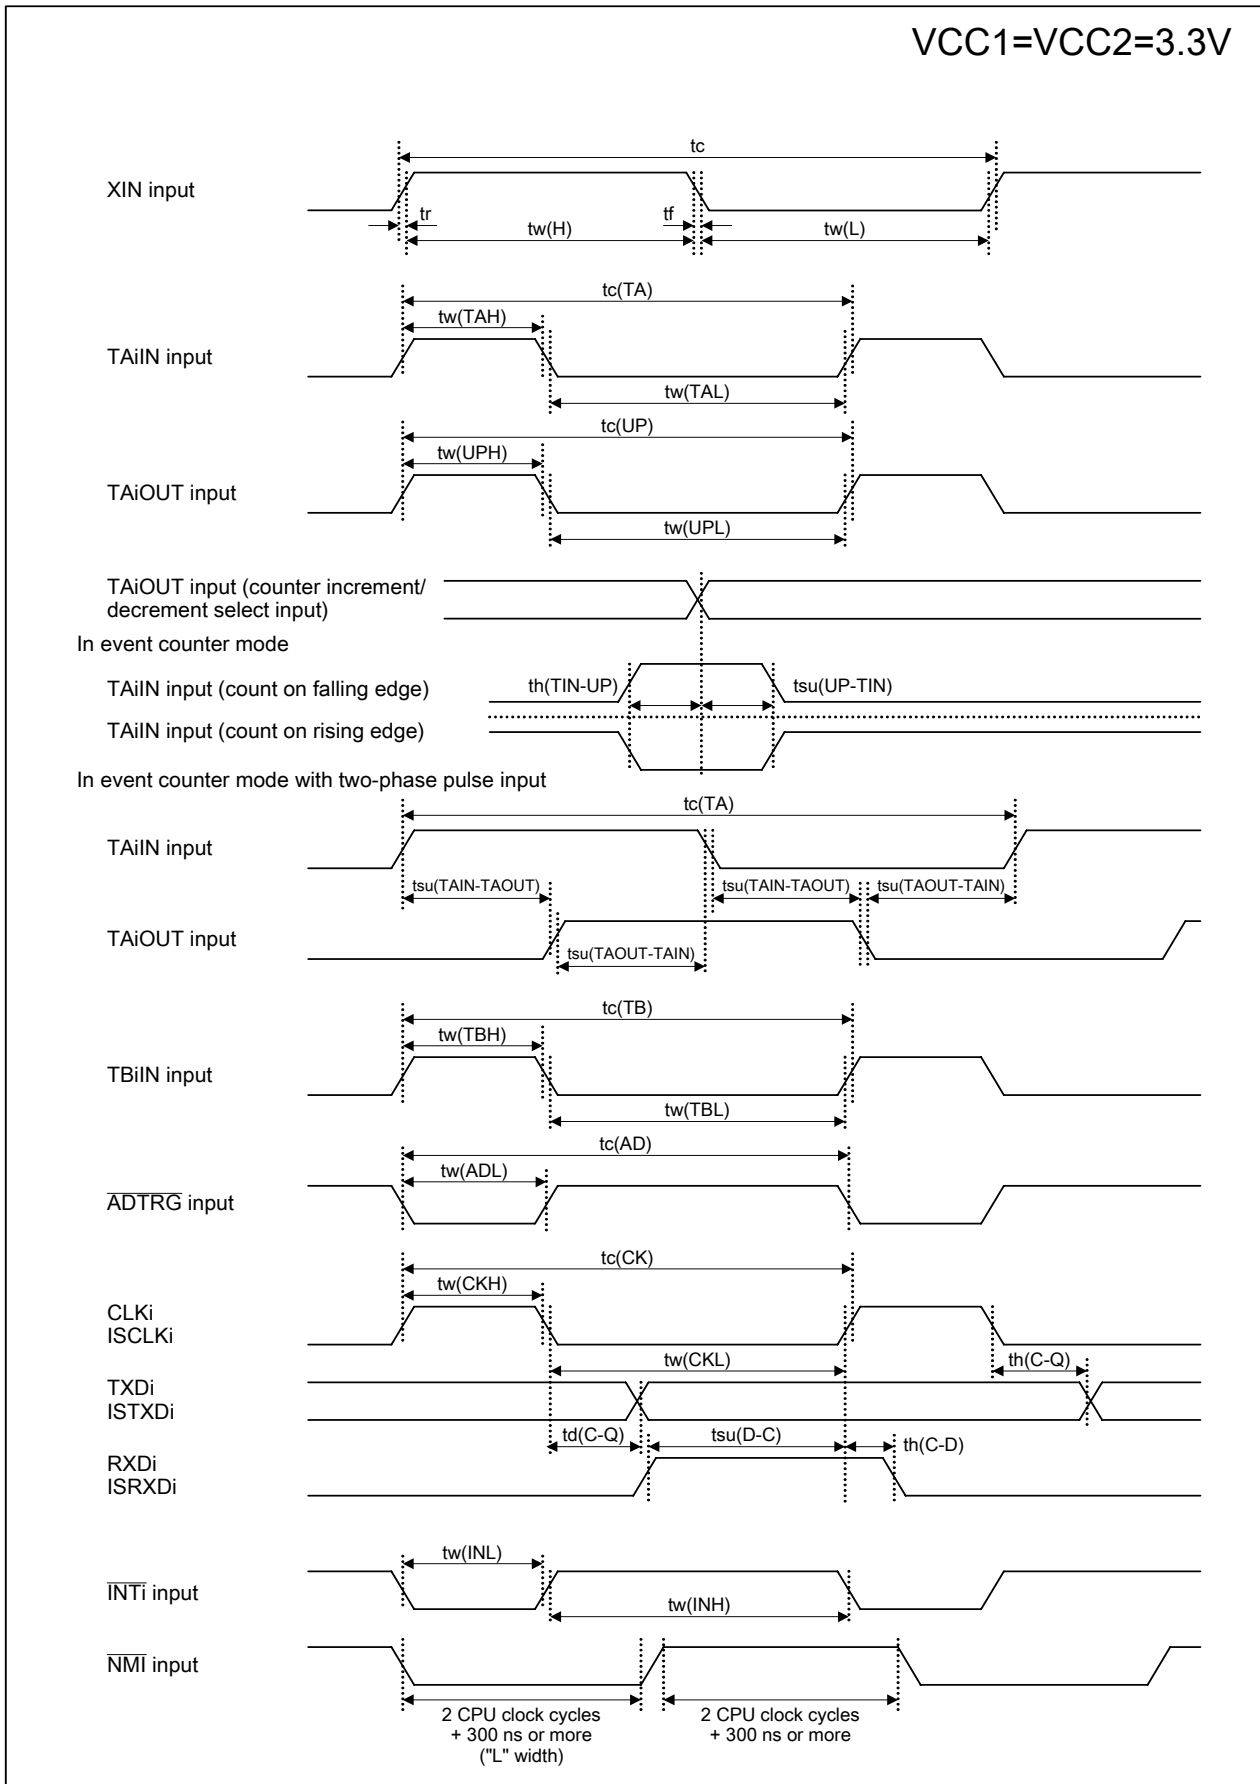

Figure 5.7 VCC1 = VCC2 = 3.3 V Timing Diagram (1)
71	<ul style="list-style-type: none"> • Figure 5.7 Vcc1=Vcc2=3.3V Timing Diagram (1) $t_h(BCLK-AD)$, $t_h(BCLK-CS)$ and $t_h(BCLK-RD)$ values modified; $t_{ac1}(AD-DB)$ expression on note 2 modified; $t_h(WR-DB)$, $t_h(WR-AD)$ and $t_w(WR)$ expression on note 3 modified; t_{cyc} expression added